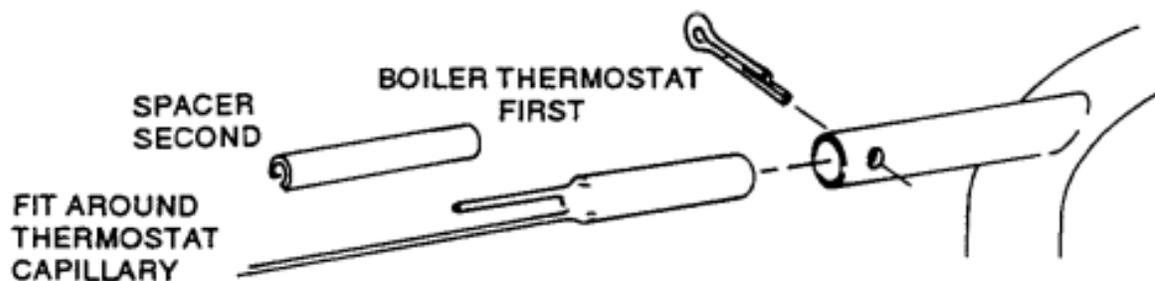

Fig. 15 Location of Thermostat Phial.
- g Reassemble in reverse order. The thermostat should be positioned so that the capillary exits from the right hand side. The phial and spacer should be located as in Figure 15 .